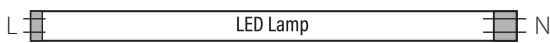

Fig. 1 - Double sided connections
7. LED T8 lamps are designed for double sided connections only (Fig. 1). To install, please wire non-shunted sockets by connecting one wire from the lamp holder to branch circuit L (LIVE) and the other wire at the opposite end to branch circuit N (NEUTRAL). Do not connect opposite side to power. Use appropriate wires for connection.